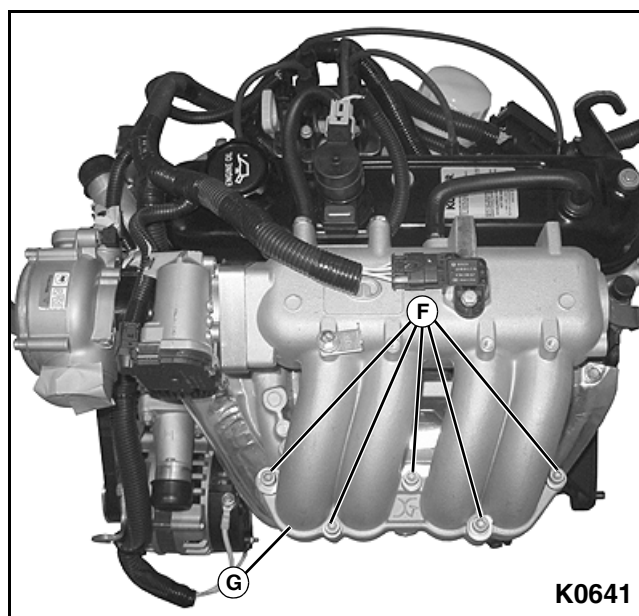

Figure 3-72
4. Install five bolts, flat washers, and lock washers (F) to upper intake manifold (G) as noted during removal. Tighten bolts. **See Figure 3-72.**